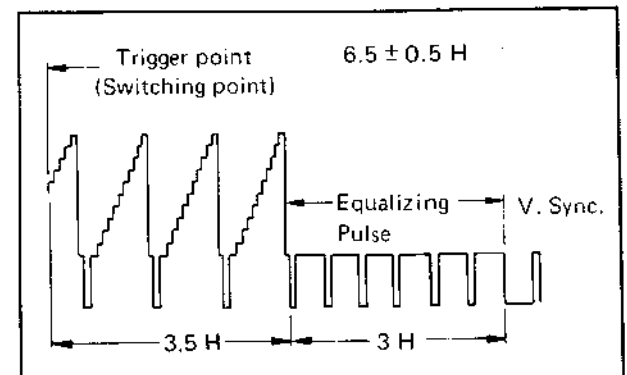

Fig. 5-8 Switching point adjustment
4. Connect oscilloscope to TP-18 (V. PULSE OUT) of the SERVO board. Adjust R28 (CH-1 SW PHASE) of the SERVO board to position the trigger point $6.5 \pm 0.5 \text{ H}$ from V sync. See Fig. 5-8.
3. Connect the oscilloscope to TP-18 (V. PULSE OUT) of the SERVO board. Adjust R62 (REC SW PHASE) of SERVO board to position the trigger point 6.5 ± 0.5 H from V sync. Refer to Fig. 5-8.
8. Connect the oscilloscope to TP-18 of the SERVO board and adjust R34 (6H CH-2 SW PHASE) to position the trigger point 6.5 ± 0.5 H before V. sync. See Fig. 5-8.